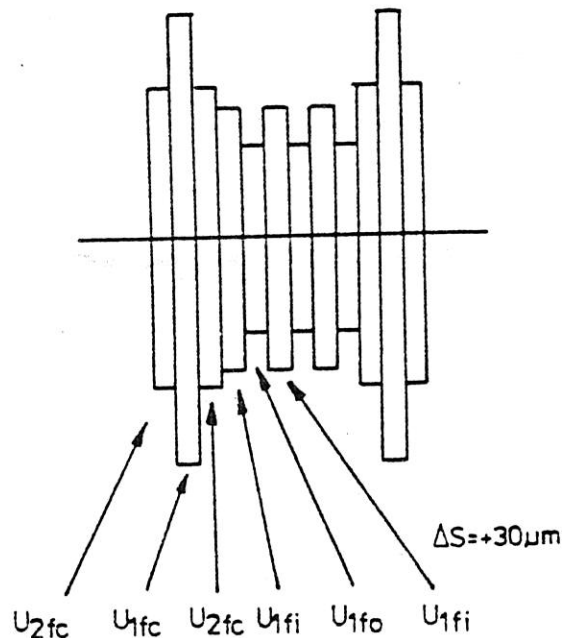

Fig. 3
Due to the special recording, it is possible to calculate the actual head displacement based on the oscillograph-reading according to fig. 3 when the read-gap-width is known.
U_{1fi} , U_{1fo} signal amplitudes, see fig. 3
6. The screen shows a burst of signals similar to figure 3 or 4.